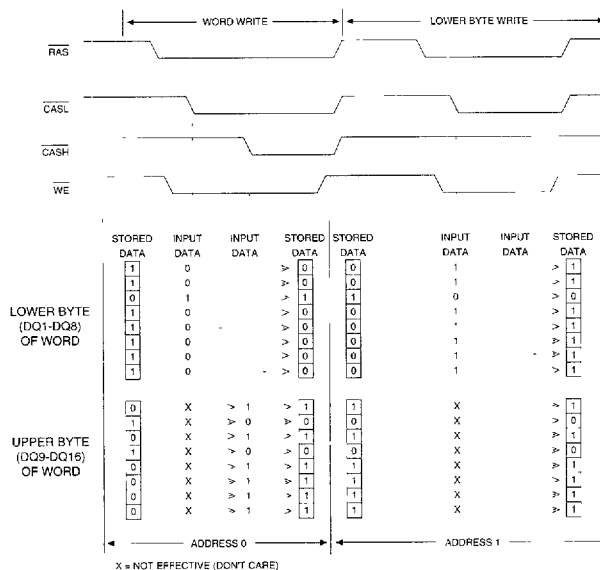

Figure 1
The MT4LC16257(S) can be viewed as two 256K x 8 DRAMS which have common input controls, with the exception of the $\overline{\text{CAS}}$ inputs. Figure 1 illustrates the MT4LC16257(S) **BYTE WRITE** and **WORD WRITE** cycles.